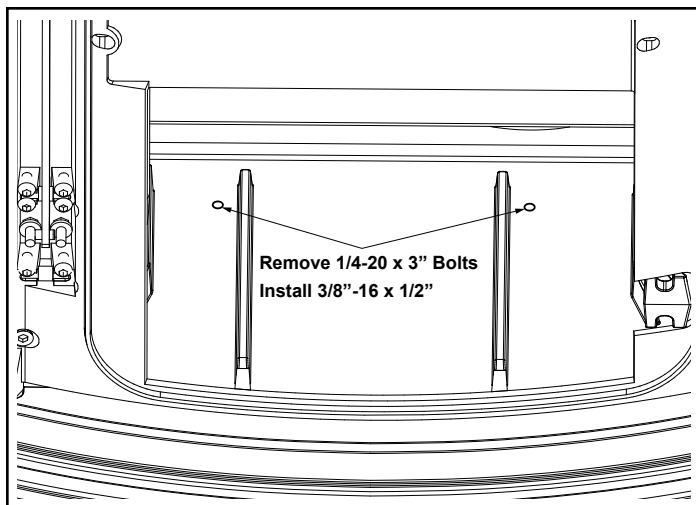

Figure 5.1
To free the stove from the skid you must remove the (2) 1/4-20 x 3". Figure 5.1. (2) 1/4-20 x 3" are located just inside the door under the ash pan.